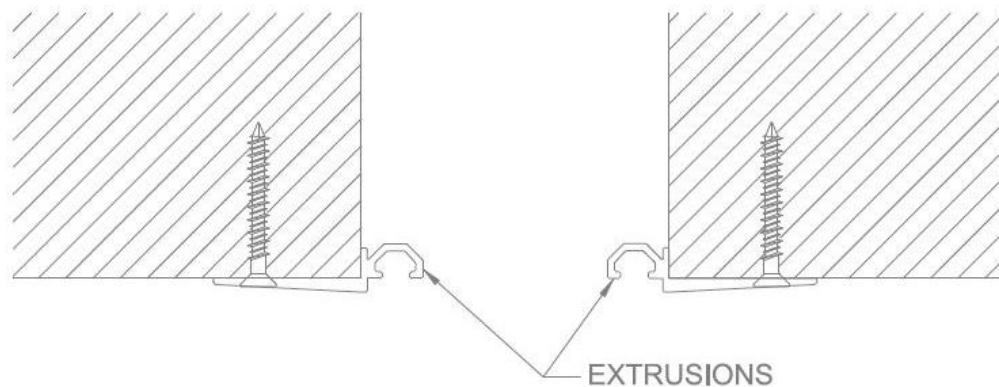

FIGURE 1
1. Position base member frames in expansion joint per shop drawings. Attach with screws (by installer) into the structural support. If attaching into concrete, use the frames as a template, mark and drill Ø5/32” holes in the concrete. Install base member frames with Ø3/16” Tapcon fasteners (by installer). **See Figure 1**